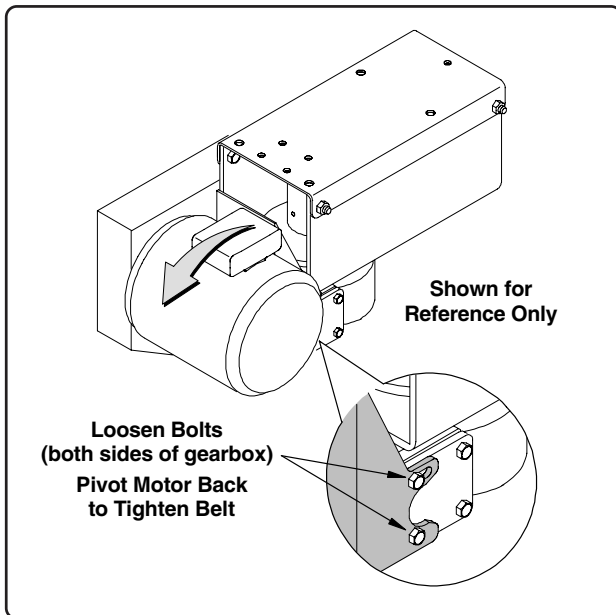

Fig. 17
3. To adjust belt tension, loosen the four bolts securing the motor mount plate (See Fig. 17).